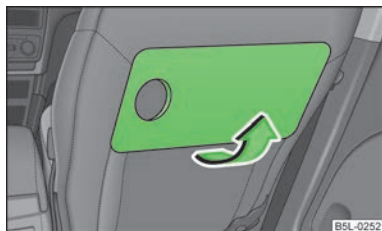

Fig. 80
- Fold the table into the horizontal position by pulling in the direction of arrow » Fig. 80.